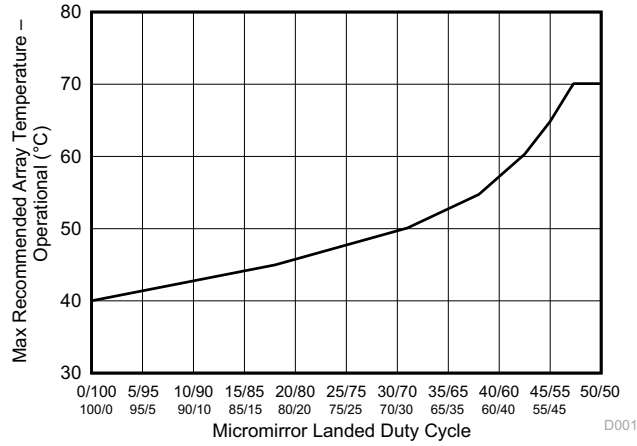

图 6-1. Maximum Recommended Array Temperature - Derating Curve
- (12) Per Fig 6-1, the maximum operational array temperature should be derated based on the micromirror landed duty cycle that the DMD experiences in the end application. Refer to § 7.7 for a definition of micromirror landed duty cycle.
- (13) Long-term is defined as the usable life of the device.
- (14) Short-term is the total cumulative time over the useful life of the device.
- (15) The maximum marginal ray angle of the incoming illumination light at any point in the micromirror array, including at the pond of micromirrors (POM), should not exceed 55 degrees from the normal to the device array plane. The device window aperture has not necessarily been designed to allow incoming light at higher maximum angles to pass to the micromirrors, and the device performance has not been tested nor qualified at angles exceeding this. Illumination light exceeding this angle outside the micromirror array (including POM) will contribute to thermal limitations described in this document and may negatively affect lifetime.